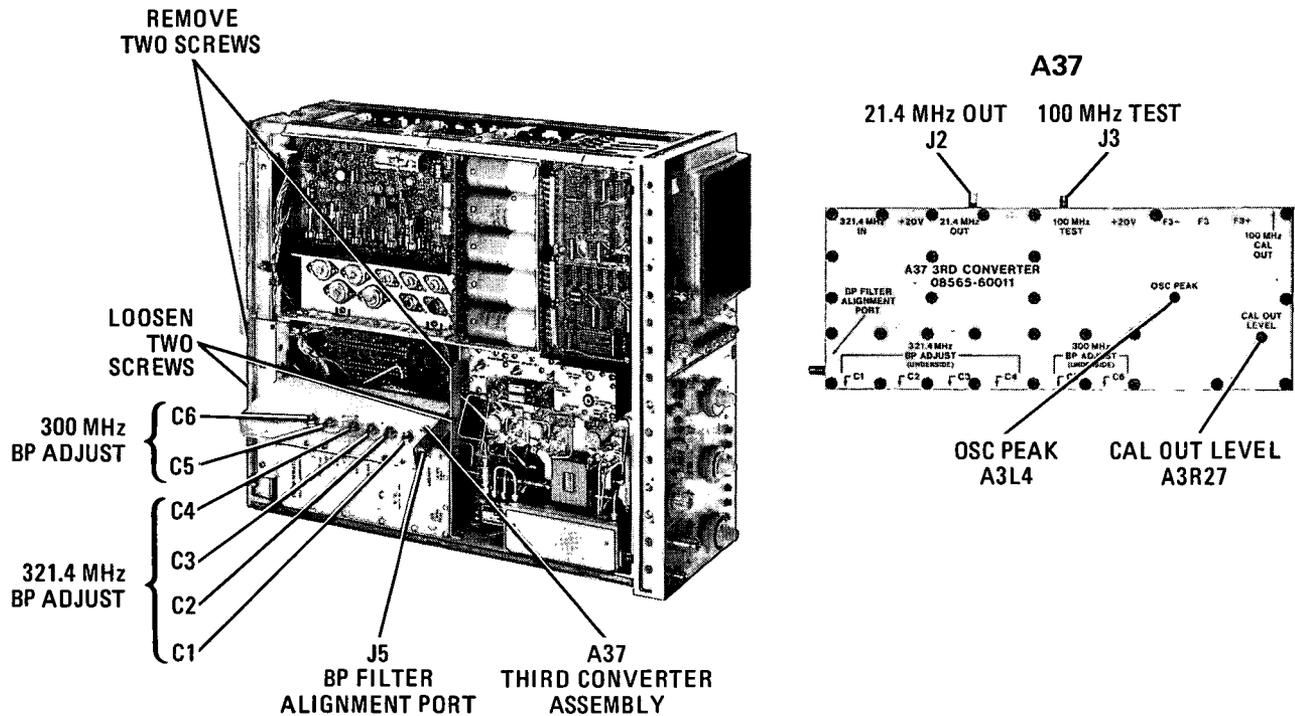

Figure 5-38. Third Converter Adjustment Locations
- b. Remove two screws and loosen two screws (Figure 5-38) and tilt out A37 Third Converter Assembly.